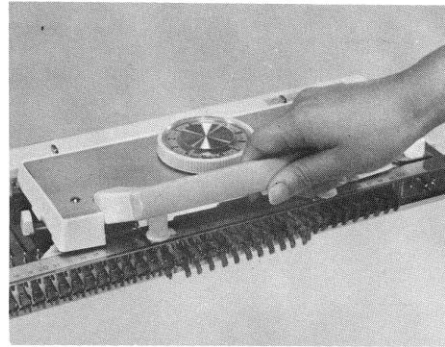

Fig.10
5. Raise up carriage handle in position. (Fig.10)